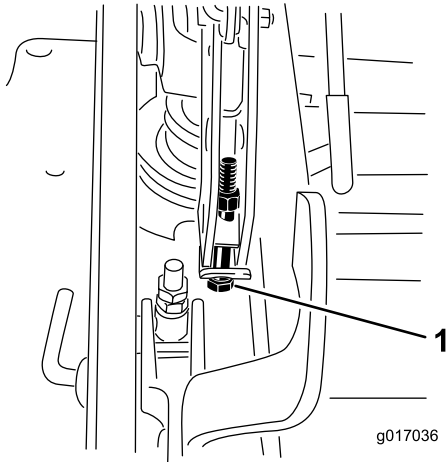

Figure 100
12. If the deck is too low, tighten the single-point-adjustment bolt by rotating it clockwise. If the deck is too high, loosen the single-point-adjustment bolt by rotating it counterclockwise (Figure 100).